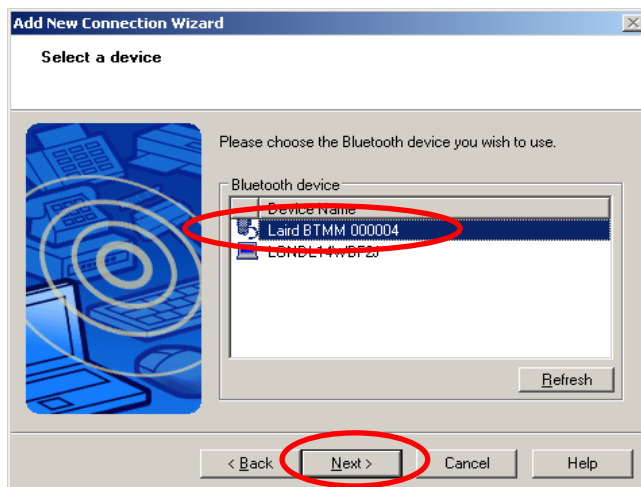

Figure 2-9: A2DP example 1 – Select Bluetooth device (Click "Refresh" if Laird BTMM is not listed)
4. Select “Laird BTMM...” if not listed: click “Refresh” - Figure 2-9